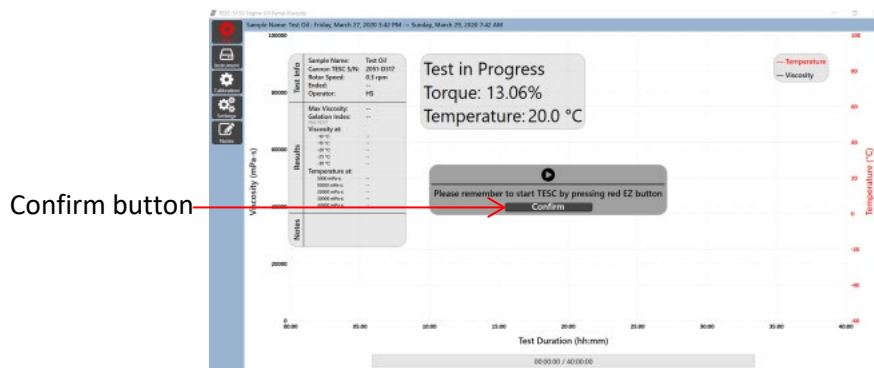

Figure 38: Confirm Test
10. On the PC, press **Confirm** in the TESC software, as shown in Figure 38.